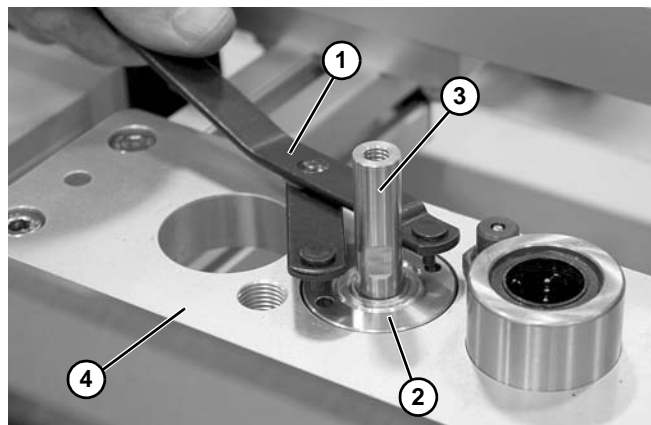

Figure 128
11. Using a spanner wrench (**Figure 128, item 1**), loosen and remove nut (**Figure 128, item 2**).
12. Remove cylinder (**Figure 128, item 3**) from mounting plate (**Figure 128, item 4**).